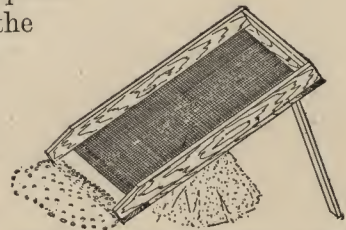

Fig. 4—Screen for sand—¼-inch mesh.
27. Bank-run gravel usually contains such varying amounts of fine and coarse aggregates that it should be screened before using, separating the fine aggregate from the coarse aggregate and remixing in proper proportions—see Figure 4.